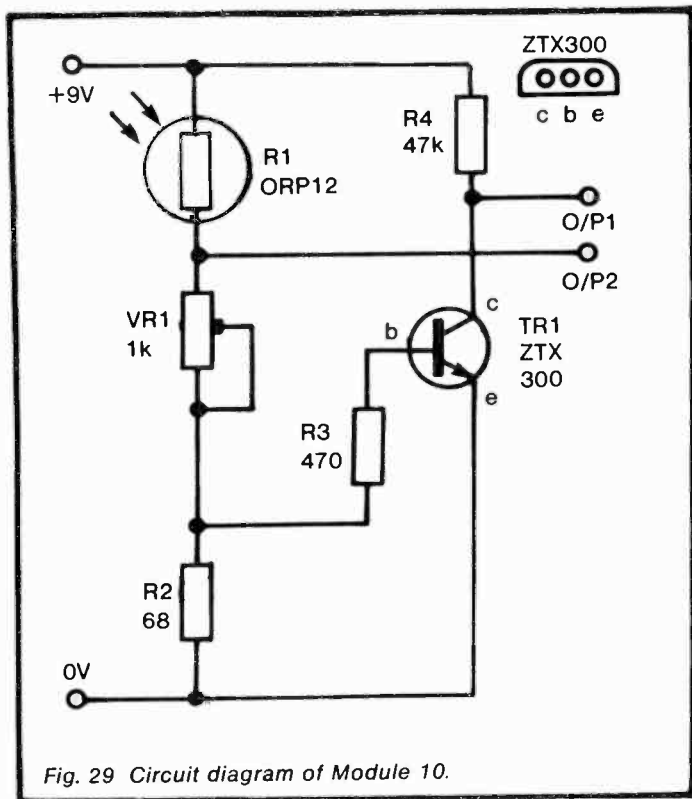

Fig. 29 Circuit diagram of Module 10.
*Circuit diagram:* see Figure 29.